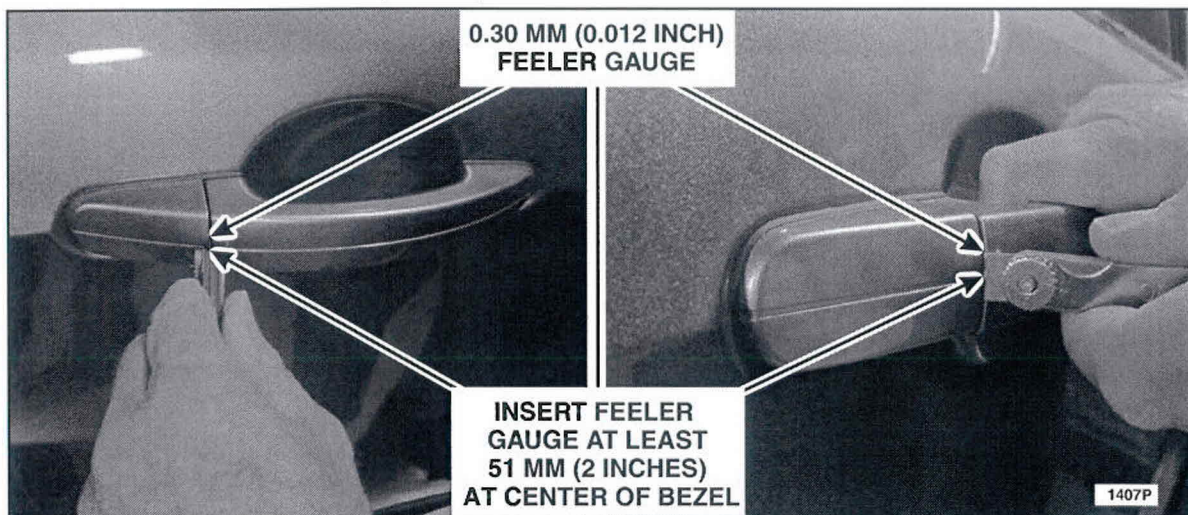

FIGURE 3
4. Insert the 0.30 mm (0.012 in) feeler gauge between the door handle and the bezel as shown. See Figure 3.